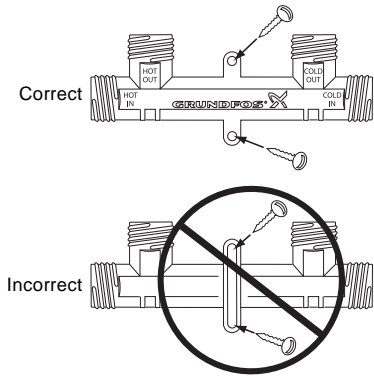

Fig. 7 Correct installation of bypass valve
8. Bypass valve may be mounted to the wall with supplied mounting screws if desired; two-hole mounting bracket flush with wall. See fig. 7.